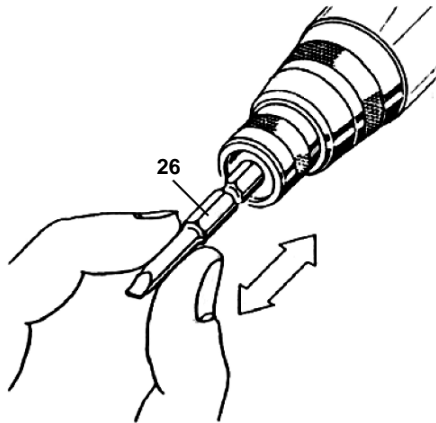

Fig. 14: Changing the tool GAA/GA
Insert the tool (26) as far as possible in the hexagon socket. After use, the tool can simply be pulled out, it is only held by a spring (see Fig. 14:).